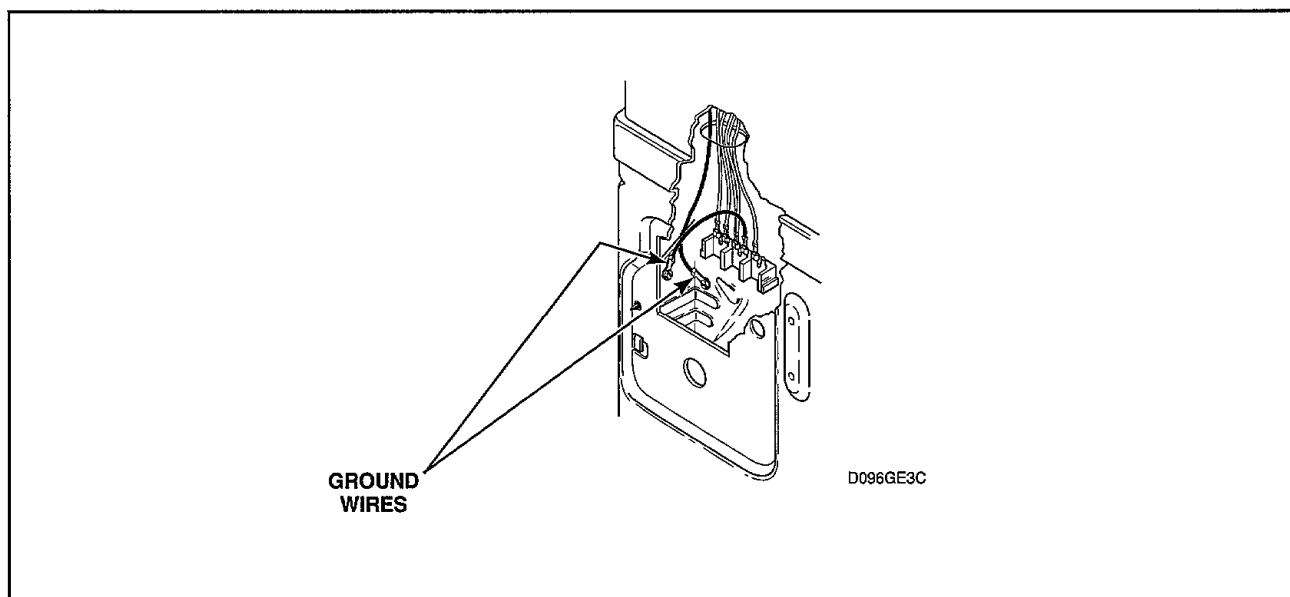

Figure 2
2. NEUTRAL AT TERMINAL BLOCK TO REAR BULKHEAD AND FROM REAR BULKHEAD TO CONTROL HOUSING (Electric Models Only — *Figure 2*).